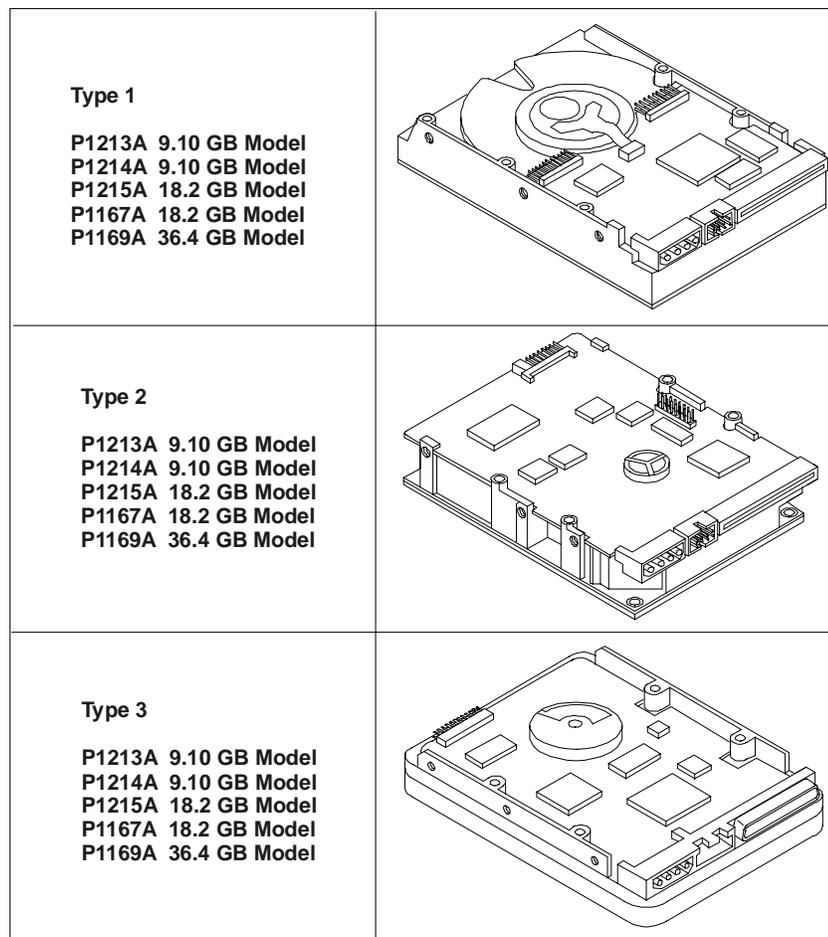

Figure 1-1. Identification of the Three Different Types of Drives
- Match the drive you unpacked with the type of drive shown in Figure 1-1.